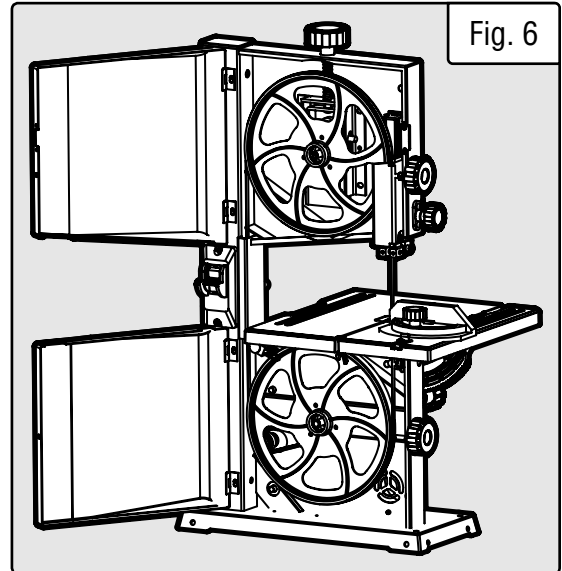

Fig. 6
1. Turn off the band saw and unplug it from the power supply. Make sure that the blade is not moving, then open both the upper and lower wheel covers (Fig. 6).